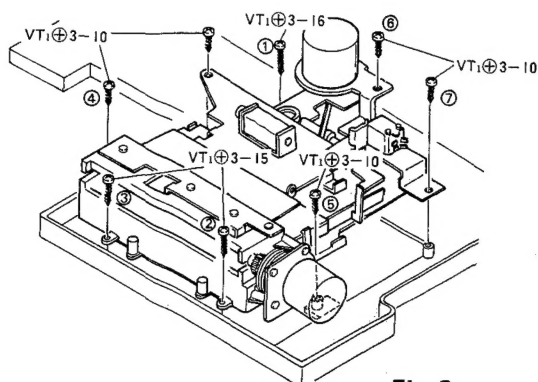

Fig. 8
- 3) Remove the 8 screws. (See figure 8)
- 4) When reinserting the mechanism block, replace the 7 screws in their numerical order as shown in figure 8. (See figure 8)